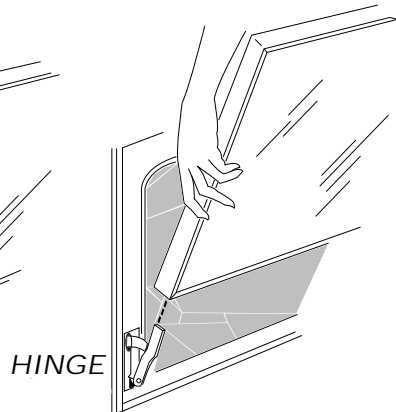

Fig. 4B
- Grasp the door at each side and lift up and off the hinges. (See Fig. 4B).